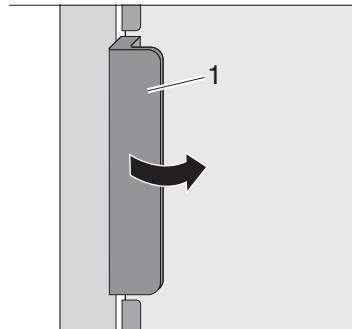
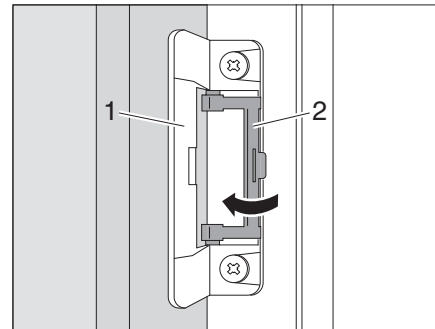

Fig. 279 Opening the refrigerator door
Fig. 280 Locking the ventilation position
- Open the refrigerator door at the handle (Fig. 279,1). The locking mechanism (Fig. 280,1) is released automatically.
- Fold open the latch (Fig. 280,2).